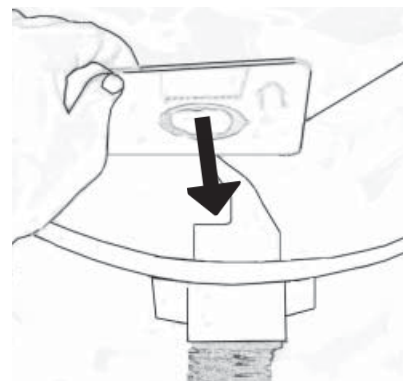

Fig. 24
1. Fit the dust bag's card with a hole into the bag holder, Fig. 24.